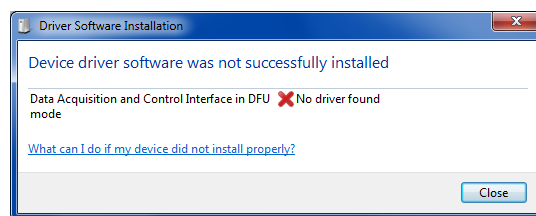

Figure 3: Windows 7 – Driver Software Installation
- 5. When the Data Acquisition and Control Interface is connected to the computer in DFU mode for the first time, the “Driver Software Installation” window may appear for Windows 7 (Figure 3). If so, follow the USB installation procedure in appendix A. Otherwise, go directly to step 5.